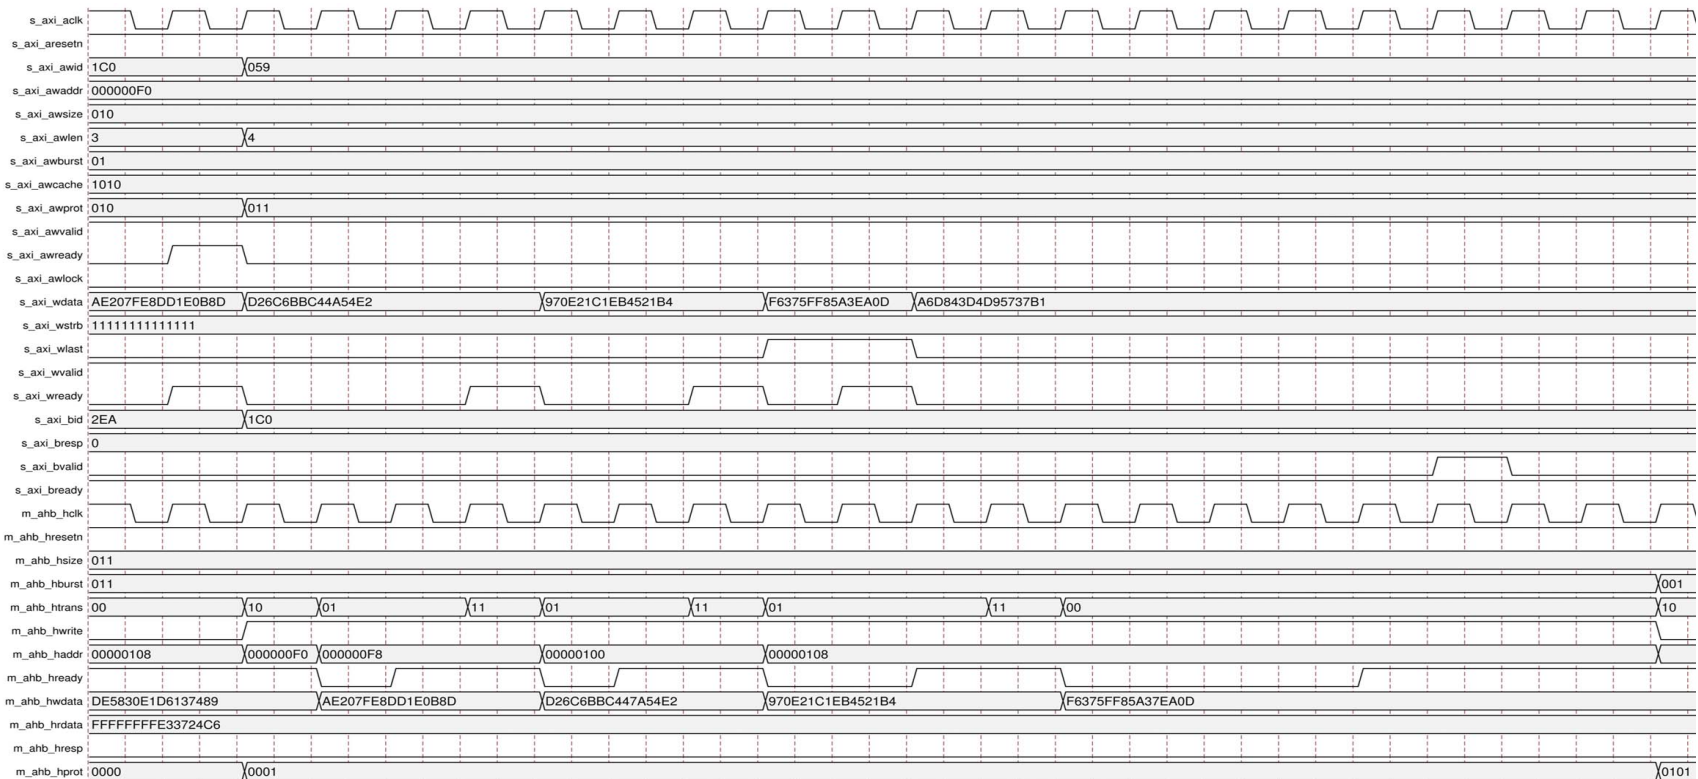

Figure 3-4: AXI4 Incrementing Burst Write Transfer of Length 4
4. AXI4 incrementing burst write transfer of length 4 is shown in Figure 3-4.